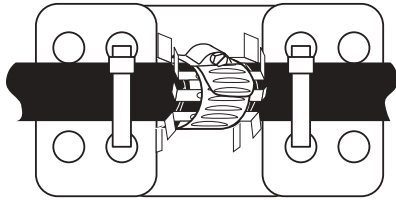

Figure 8
**9.5** Secure the cable to the sheath retention bracket using cable ties. Make sure the tabs on the clamp material are in the recessed section of the bracket (Figure 8).